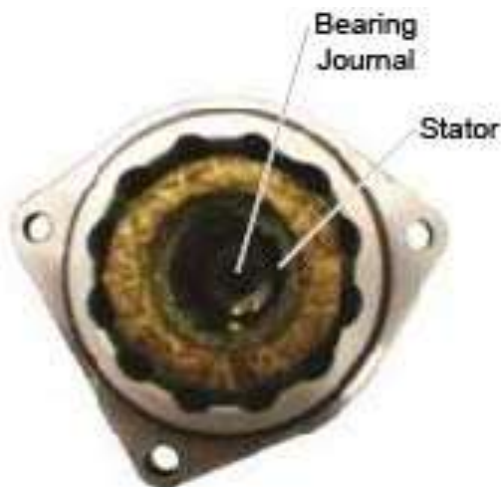

Figure 50
- (4) Use an internal bore micrometer to measure the inside diameter of the PMA body bearing journal and ensure the measurement is within .502 and .503 inches (Figure 50 and 51). If the measurement is not between .502 and .503, replace the PMA.